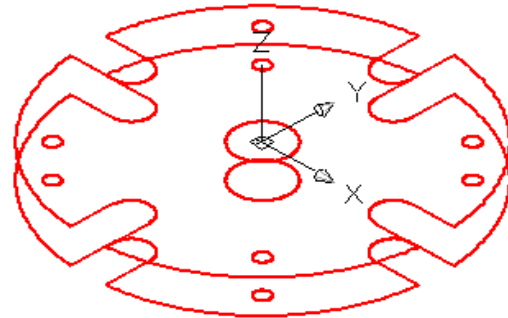

Figure Step 6
Step 6 Using the COPY command, shown below, copy all of the objects 10 units in the negative Z direction as shown in Figure Step 6.